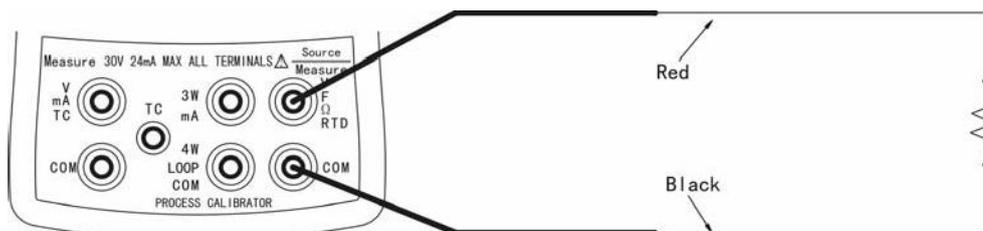

Figure5-5 Measuring Resistance
- (1) Press  until the lower display shows "MEASURE".
- (2) Press  to select resistance until the display shows "Ω".
- (3) Connect the test leads as shown in Figure5-5.